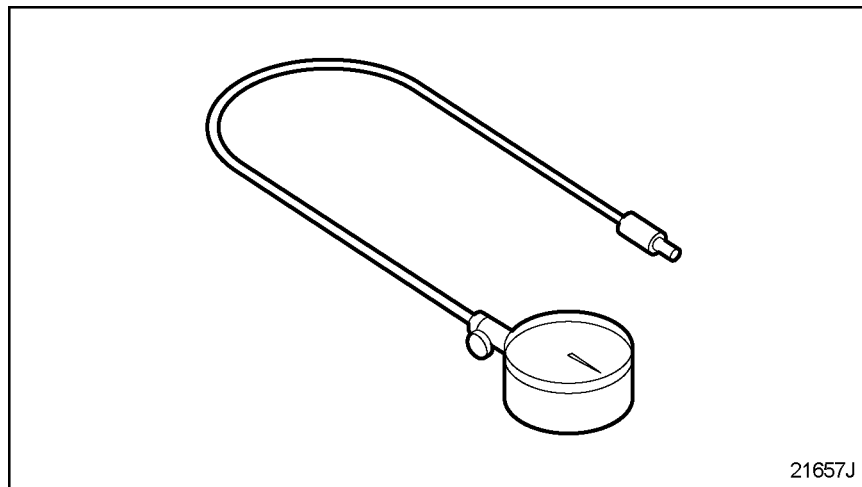

Figure 11-3 Attach Cylinder Compression Gauge J 6692-B
19. Attach cylinder compression gauge (J-6692-B) to the first adaptor. See Figure 11-3.